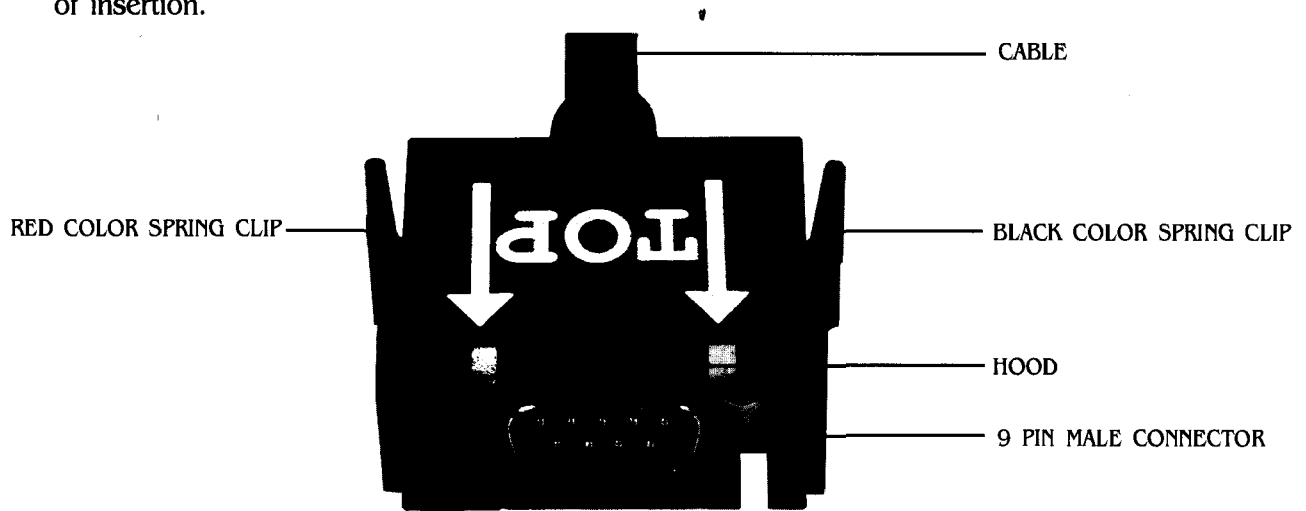

Fig.4 Inter Connecting Cable
11. The interconnecting cable is a protected round cable, one end of which is permanently attached to the Ballot Unit. To its other end is attached the connector with a hood (Fig.4) for connecting it to the Control Unit. One side of BU cable connector spring clip is in 'RED' colour. Also one side of female socket in rear side compartment of CU is in 'RED' colour for easy identification at the time of insertion.